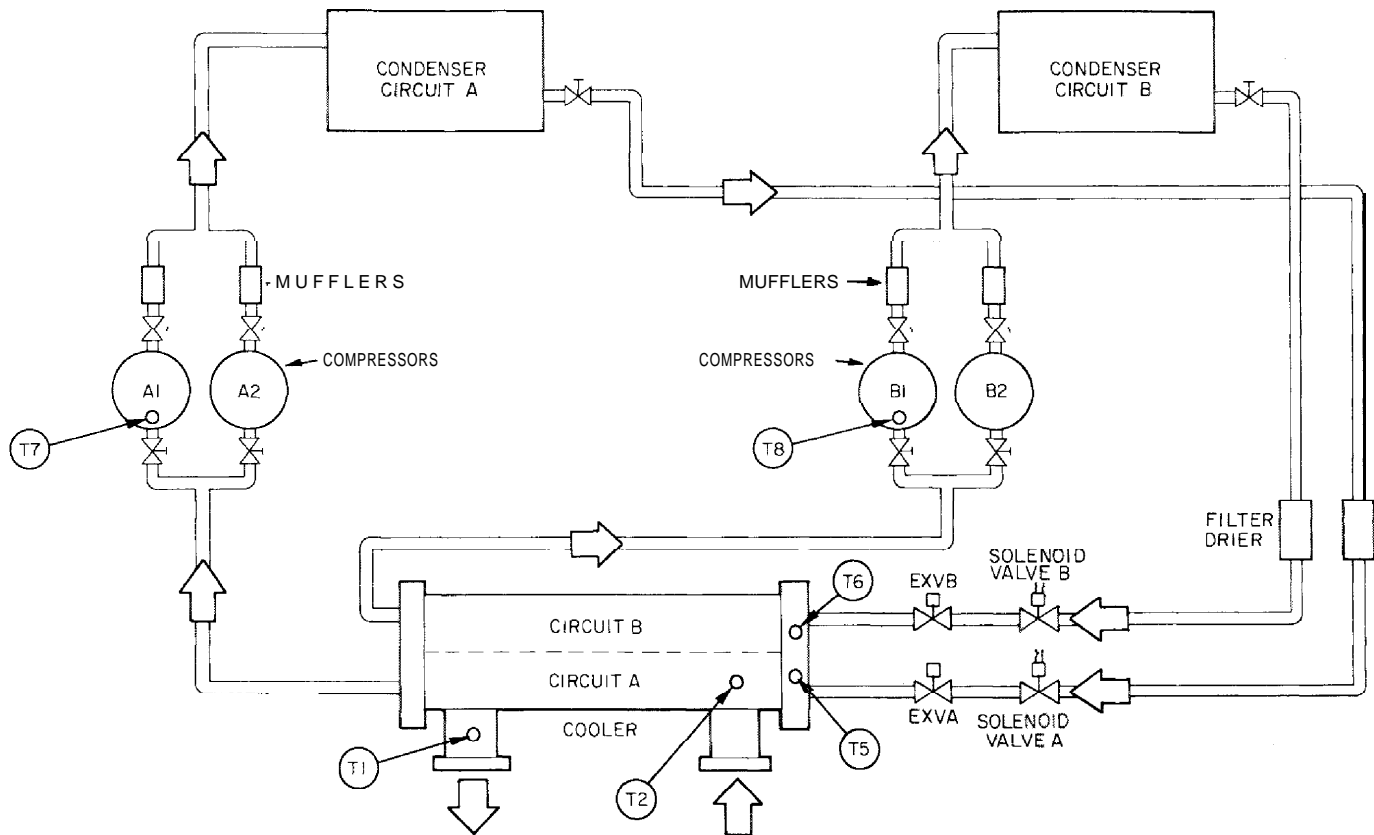

Fig. 9 — Thermistor Locations
Check thermistors that control processor output voltage pulses to EXVs. Circuit A thermistors are T5 and T7. Circuit B thermistors are T6 and T8. Refer to Fig. 9 for location.
3. Make sure that thermistor leads are connected to proper pin terminals at 157 terminal strip on processor module and that thermistor probes are located in proper position in refrigerant circuit (Fig. 9).
LOCATION -- General location of thermistor sensors are shown in Fig. 9.
The green LED should always be blinking when power is on; it indicates that the modules are communicating properly. If a green LED is not blinking, check the red LED. If the red LED is normal, check the module address switches. See Fig. 9. The proper addresses are: